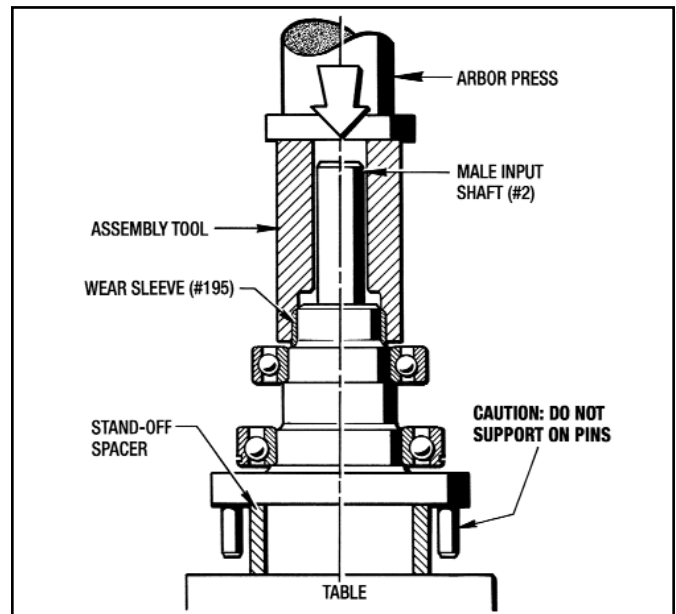

Figure 9.6 - Installing Wear Sleeve (#195) on Male Shaft
3. With an arbor press and the appropriate Assembly Tool, install the Wear Sleeve (#195) onto the Male Input Shaft (#2) as shown in Figure 9.6.